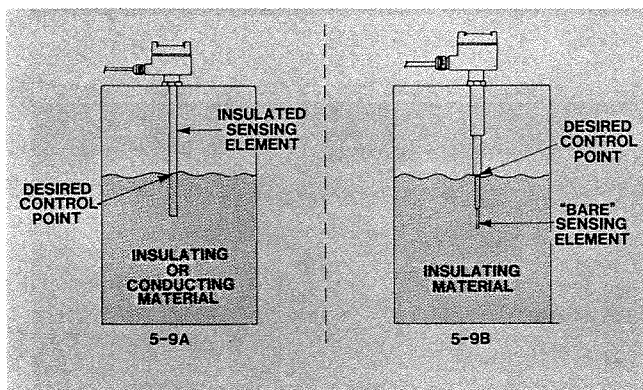

FIGURE 5-9
- A. Set the level to a point on the sensing element where control is desired. See Figure 5-9.
- B. With the insulated tool supplied, start from the full counterclockwise (CCW) position and counting the number of turns, turn the setpoint adjustment clockwise (CW) until the relay just operates. Record the number of turns from full CCW position for recalibration.